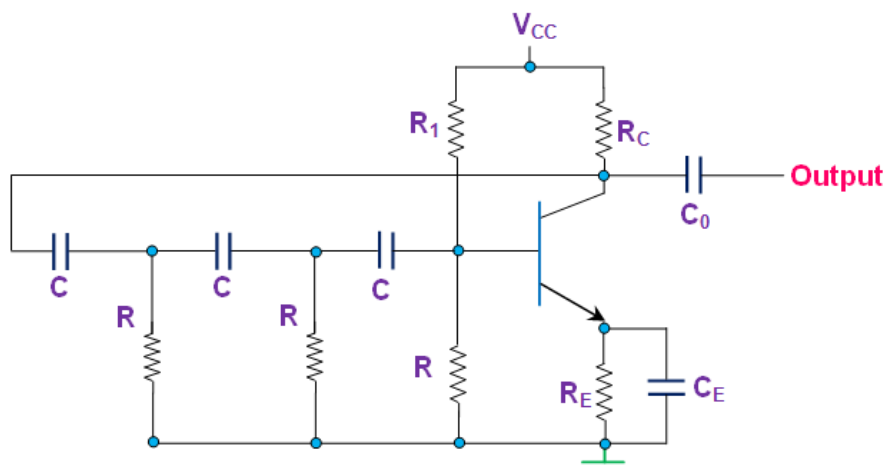

Figure 2 RC Phase-Shift Oscillator Using BJT
- In the case of **RC phase-shift oscillator** is formed by cascading three RC phase-shift networks, each offering a phase-shift of 60° , as shown by Figure 2